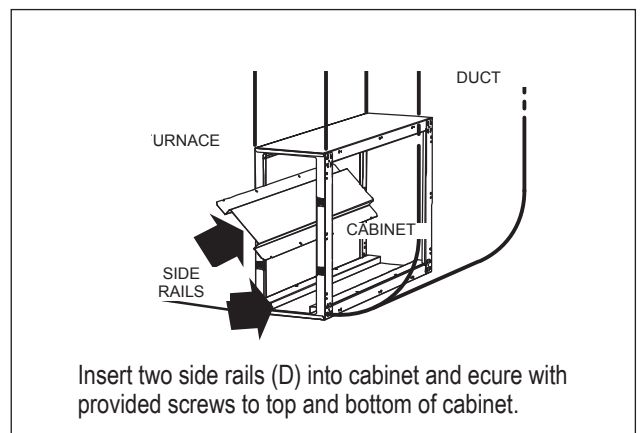

Figure 13. Install Side Rails
NOTE: Side rails (D) are attached to the Complete Comfort™ Cabinet after the cabinet is installed on the Furnace / Air Handler (see figure 13).
7. Insert side rails (D) into the cabinet and use the provided screws to secure them to the cabinet at both the top and bottom (see figure 13).